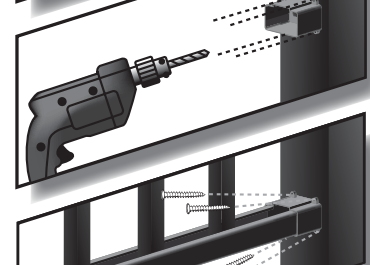

Figure 4
- 5.) Using a $\frac{1}{8}$ " drill bit, carefully pre-drill all four bottom bracket screw holes on one post *Figure 4*.